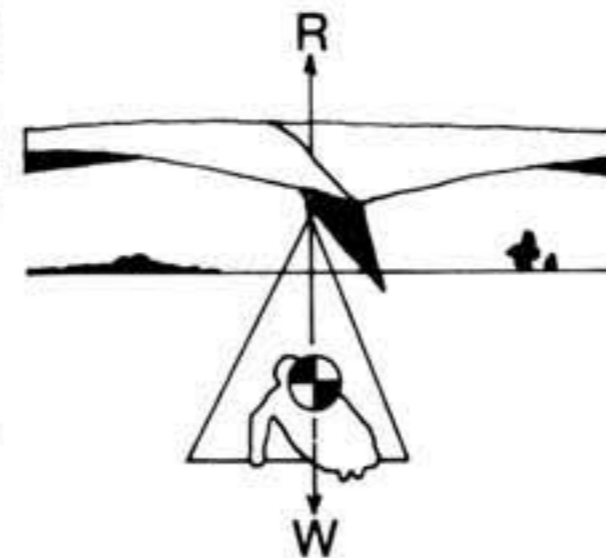

Fig. 22 Glider in level flight.
9.1 Fig.22 shows a glider in straight and level flight. Just as in trimmed pitch R is vertically opposing W.